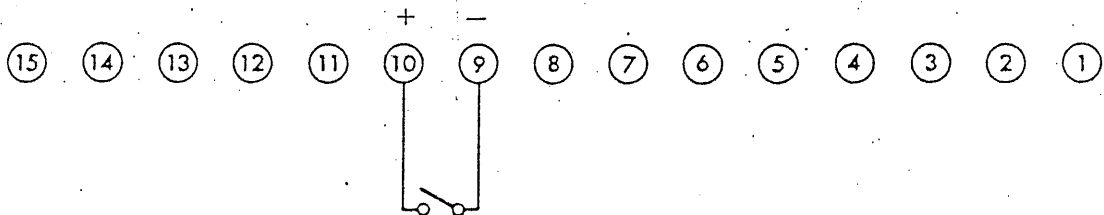

Figure 2-14-1
- As shown in Fig. 2-14-1, connect the external load switch between terminals 9 and 10 on the terminal board. The switch capacity should be around 125 V AC at 1 A.